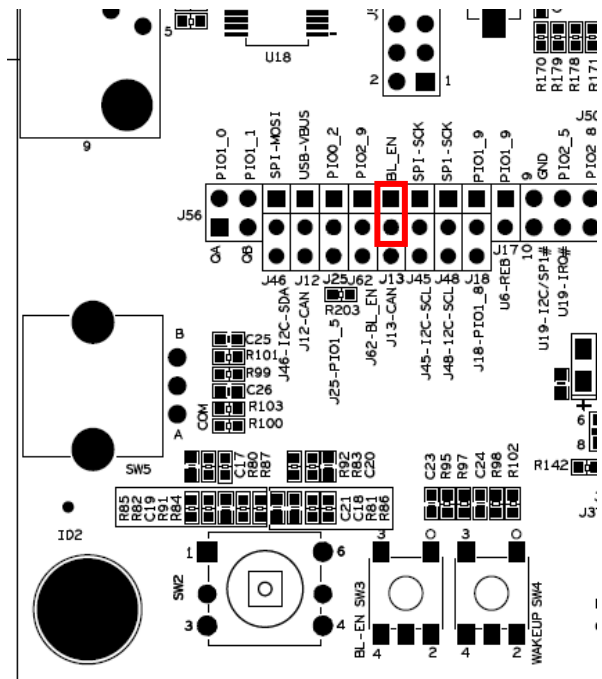

Figure 22 – Jumper Setting: Enable ISP via USB-to-UART mode, J13
- SW3 button – jumper described in section 4.6.1. You also need to make sure that the BL_EN signal is connected to GPIO_24-BL_EN signal, see section 4.1.1.1 and Figure 22.
The BL_EN signal must be connected to GPIO_24-BL_EN signal. This is accomplished by inserting a jumper in J13, pin 1-2 (schematic page 5). See Figure 22 for details.